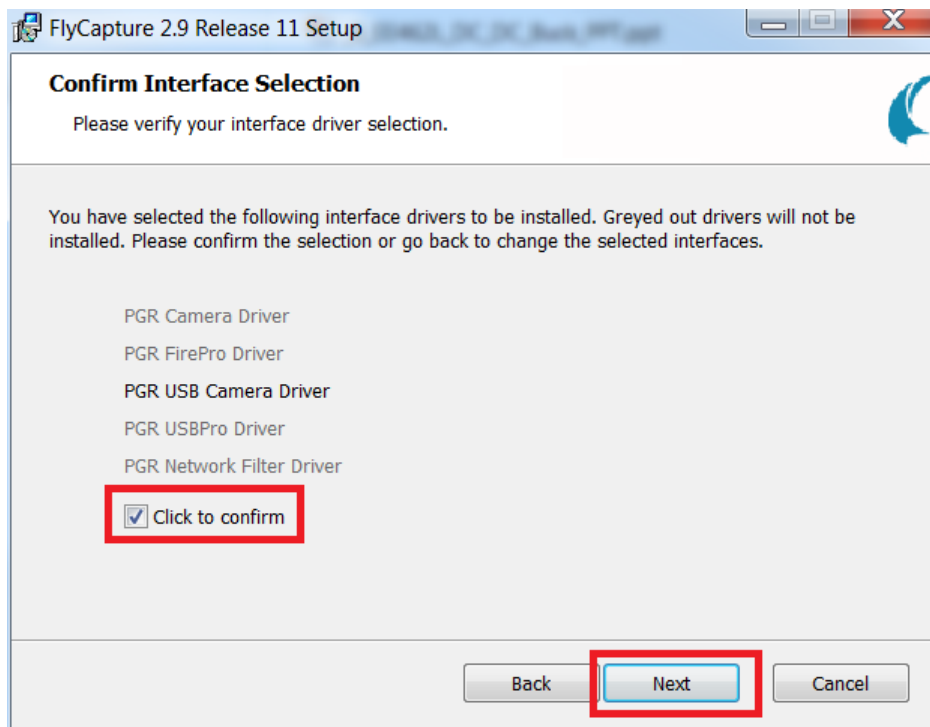

Figure 2-10. Confirm Camera Interface Selection for FlyCapture2 SDK
10. Once your options have been selected, the FlyCapture2 installer will confirm the settings. Check the box labeled "Click to confirm," then click the "Next" button, shown in Figure 2-10.